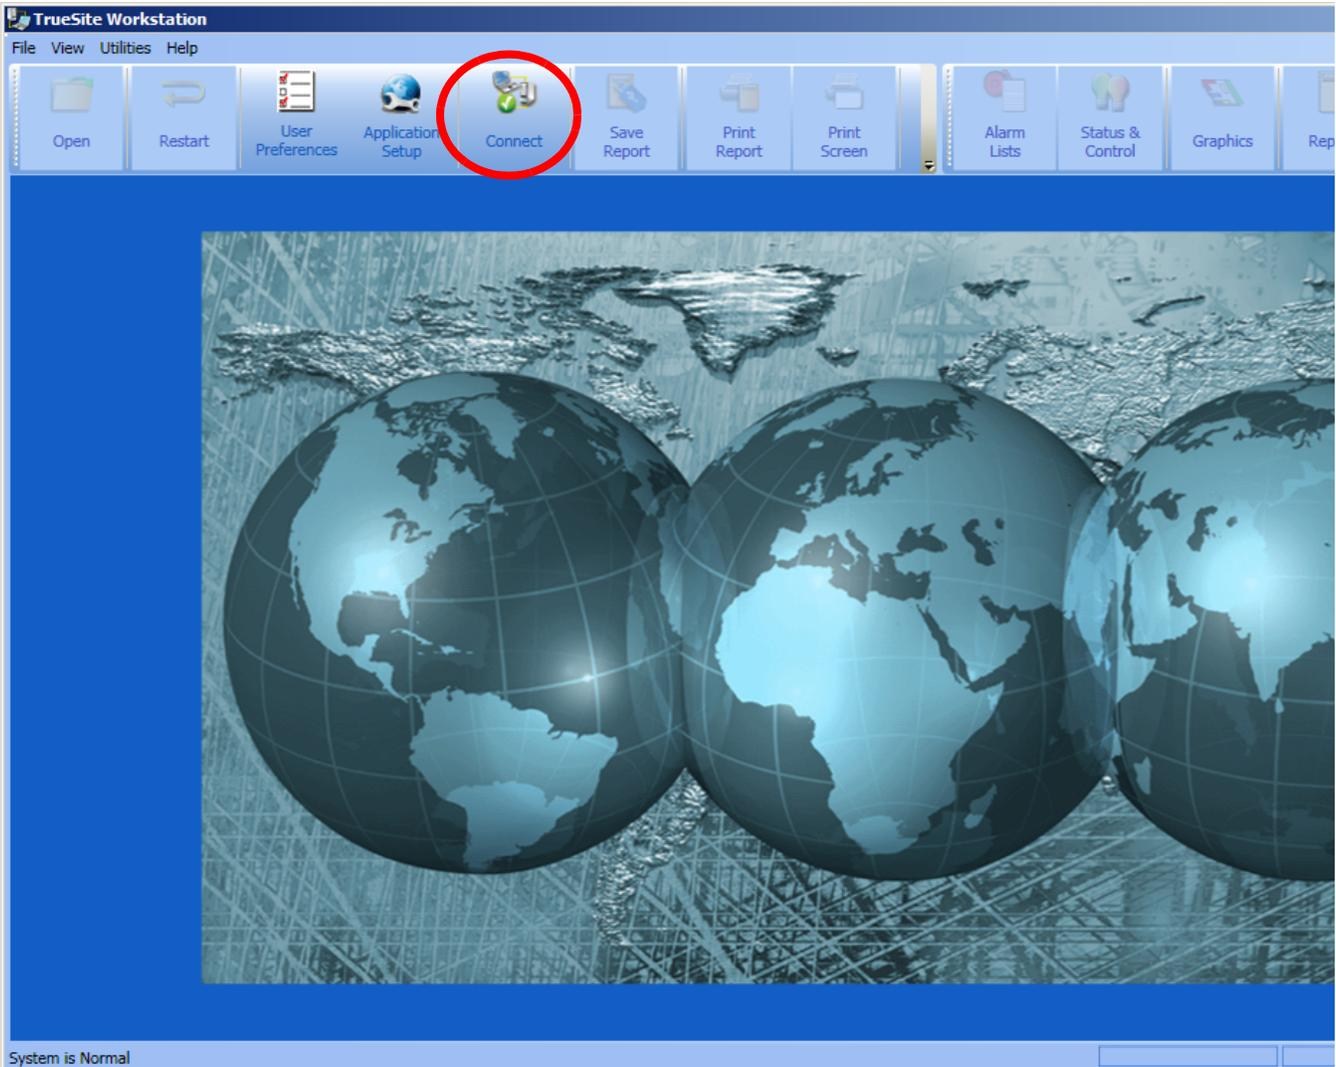

Figure 13-1 TSW Remote Client
Note: A Remote Client can be set-up to be Supervised or Non-supervised through the **Application Setup** dialog box that is accessible when the Remote Client is launched (Figure 13-1).
1. Click on the **TrueSite Workstation Remote Client** icon to launch TSW Remote Client (Figure 13-1).